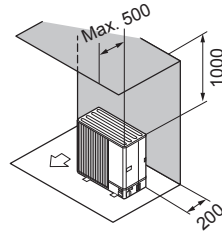

Fig. 1-8
- ② Obstacles at rear and above only (Fig. 1-8)